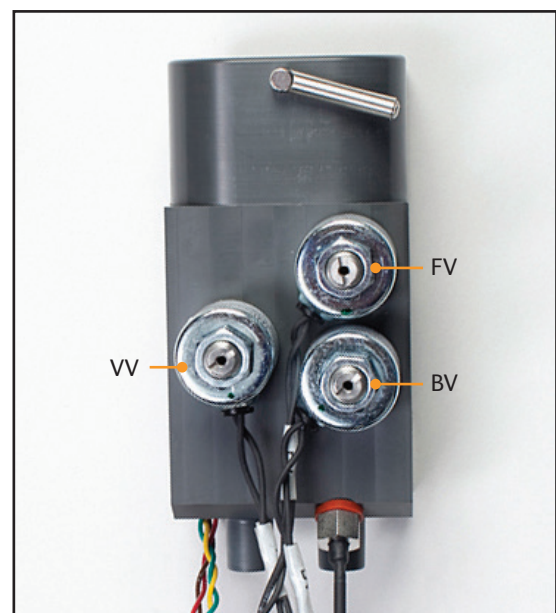

Fig. 8-62 Manifold, showing position of the 3 solenoids (Step 8)
8. When reinstalling the Manifold Harness, note that there are labels on the harness identifying the solenoids (FV, BV, VV). If the solenoids are not in the proper position as shown, the device will not work properly (Fig. 8-62).